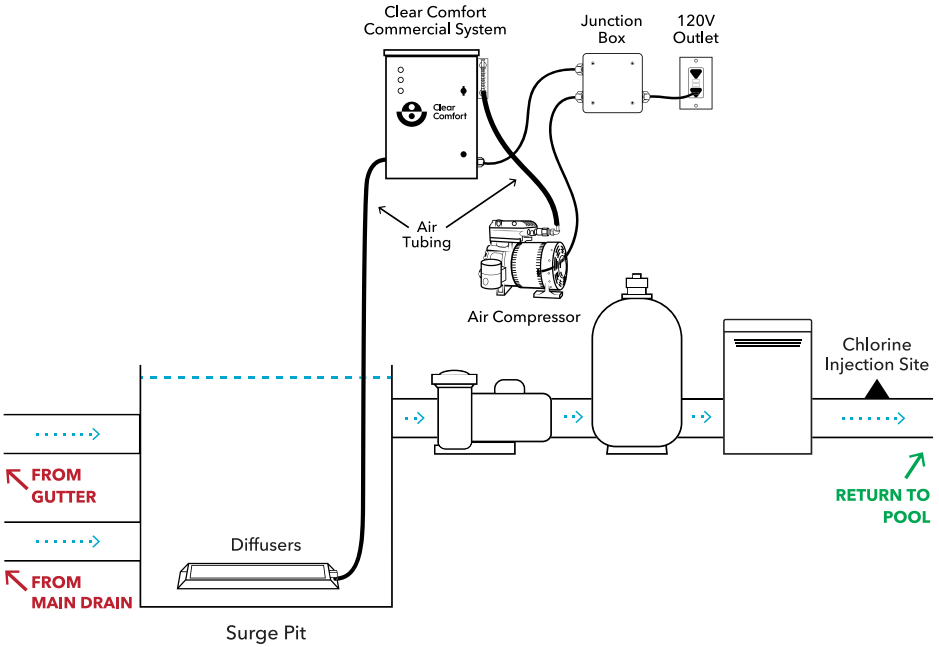

Figure 3:
11. Install 1/4" one-way check valve (supplied) in-between the Clear Comfort system to eliminate any potential water back flow. Check valve should be oriented in a vertical orientation. See Figure 3 for details.